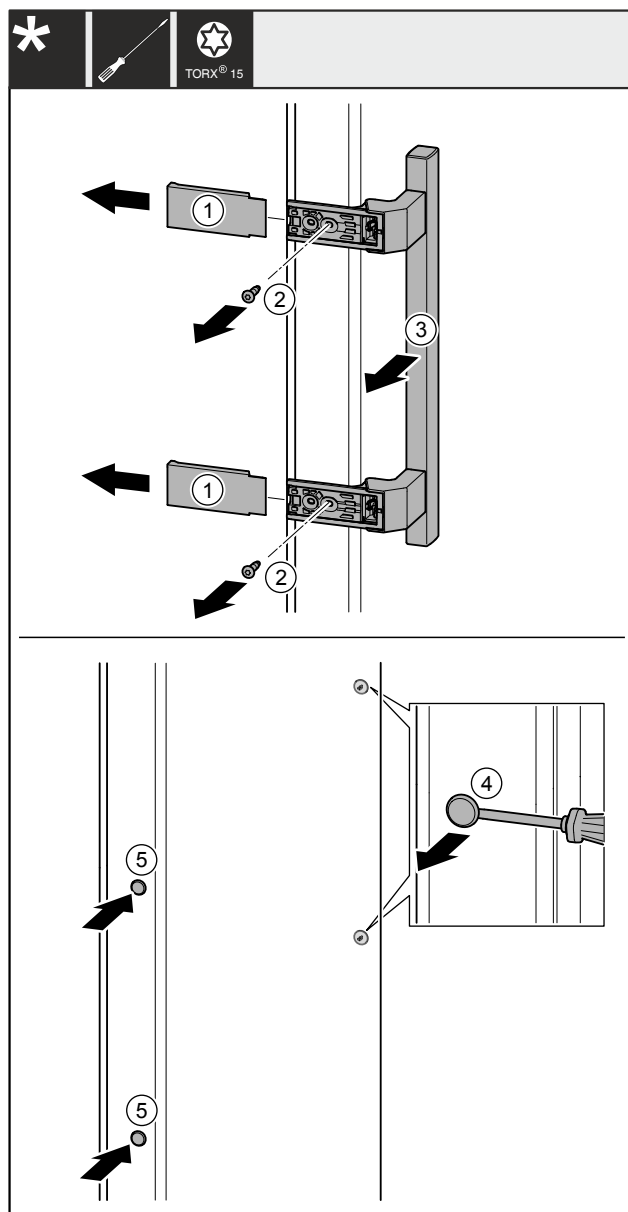

Fig. 35
- ▶ Pull off the covers. Fig. 35 (1)
- ▶ Turn out the screws Fig. 35 (2) with the screw driver.
- ▶ Remove the handle Fig. 35 (3).
- ▶ Carefully lift the side plug Fig. 35 (4) with a slotted screwdriver and pull it out.
- ▶ Reinsert the plug Fig. 35 (5) on the other side.